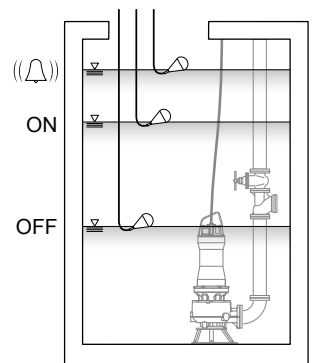

Fig. 5
**2.5 Installing the float switch control system (Fig. 5)**